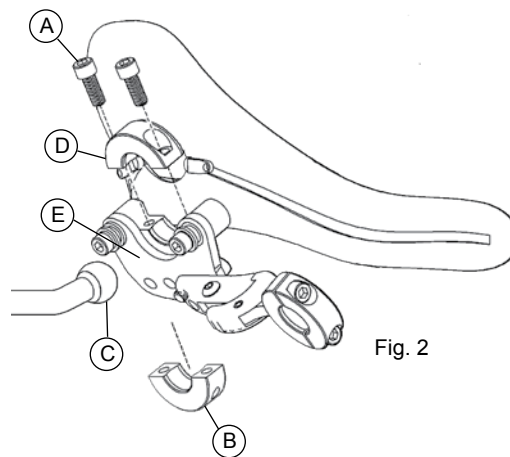

Fig. 2
3. Refer to Fig. 2. Remove bolts (Fig. 2, A) and discard bottom collar half of pad (Fig. 2, B).
4. Evenly clamp the horizontal ball (Fig. 2, C) between the pad collar half (Fig. 2, D) and PLUSH lateral support interface (Fig. 2, E).